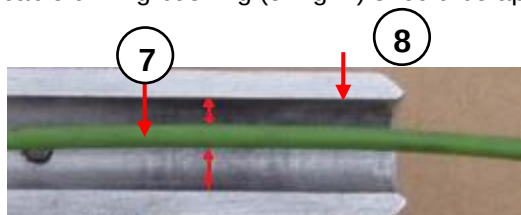

Fig. 3
**CAUTION** If the diameter of the cable (7 Fig. 3) is significantly smaller than the cable leading bushing (8 Fig. 3), the cable may be damaged by the feeder at the blowing head inlet.